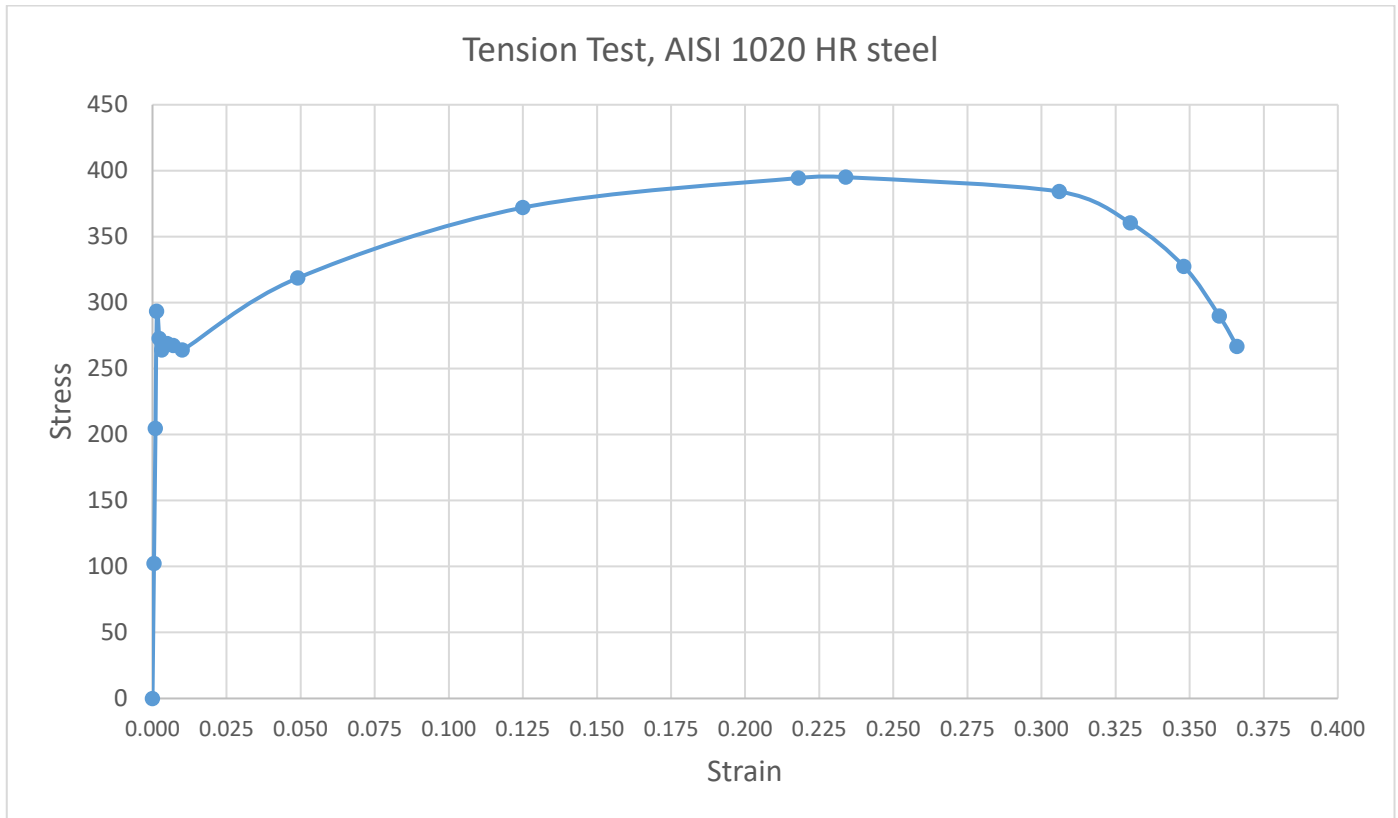
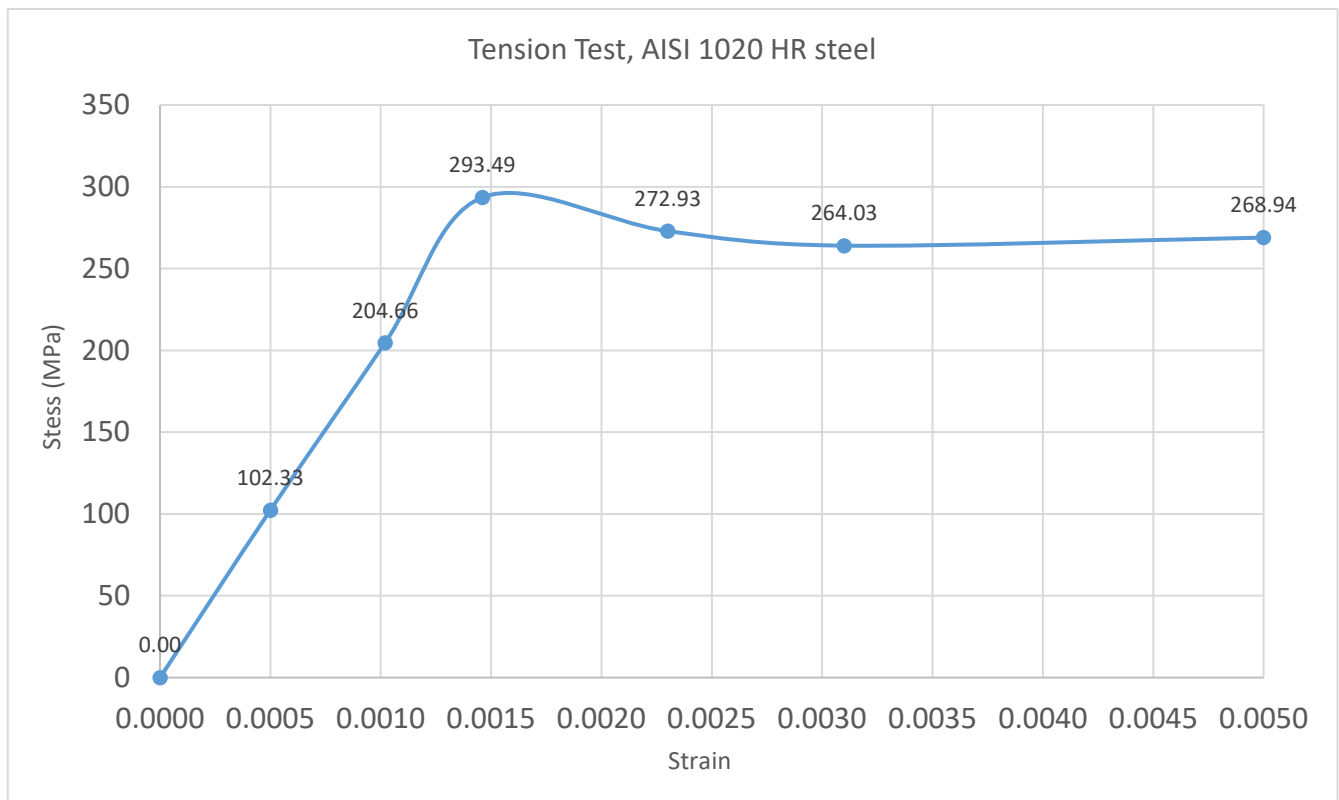

Figure 1: Tension Test plot, AISI 1020 HR steel
Figure 2: Elastic region and yield point
- Figure 1 gives a full set of data until material fracture. Strain scale (0 - 0.4)
- Figure 2 is the same data as Figure 1 but focuses on the initial part of the graph. i.e. it shows the yield plot in the elastic region. Strain scale (0 – 0.005)
2. 0.2% offset yield stress, (σ_o , MPa): use Figure 2.
3. The point of fracture, i.e. stress value (σ_f , MPa) and strain value (ϵ_f) at fracture point: use Figure 1.
4. The Ultimate tensile strength (σ_u , MPa): use Figure 1.